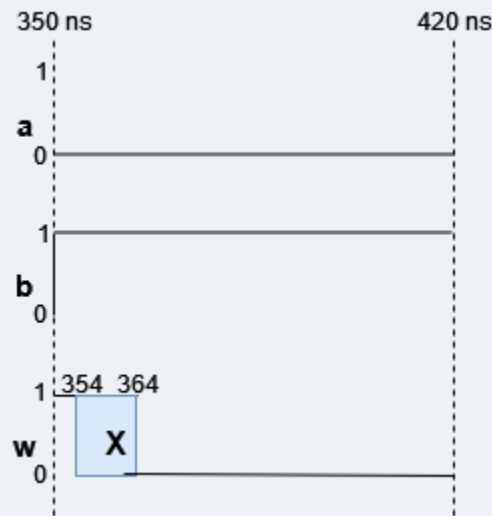

Figure 1.5
- **350 to 420 ns:** As “b” turns to 0, it costs 7 ns for the first and 7 ns for the second pMOS transistor to propagate Z to the output. Also, we need a 4 ns for the nMOS in order to propagating 0 to the output. So, the output will remain 1 for 4 ns, then we’ll get X on the output for 10 ns till the pull up part propagates Z-value. (fig. 1.5)